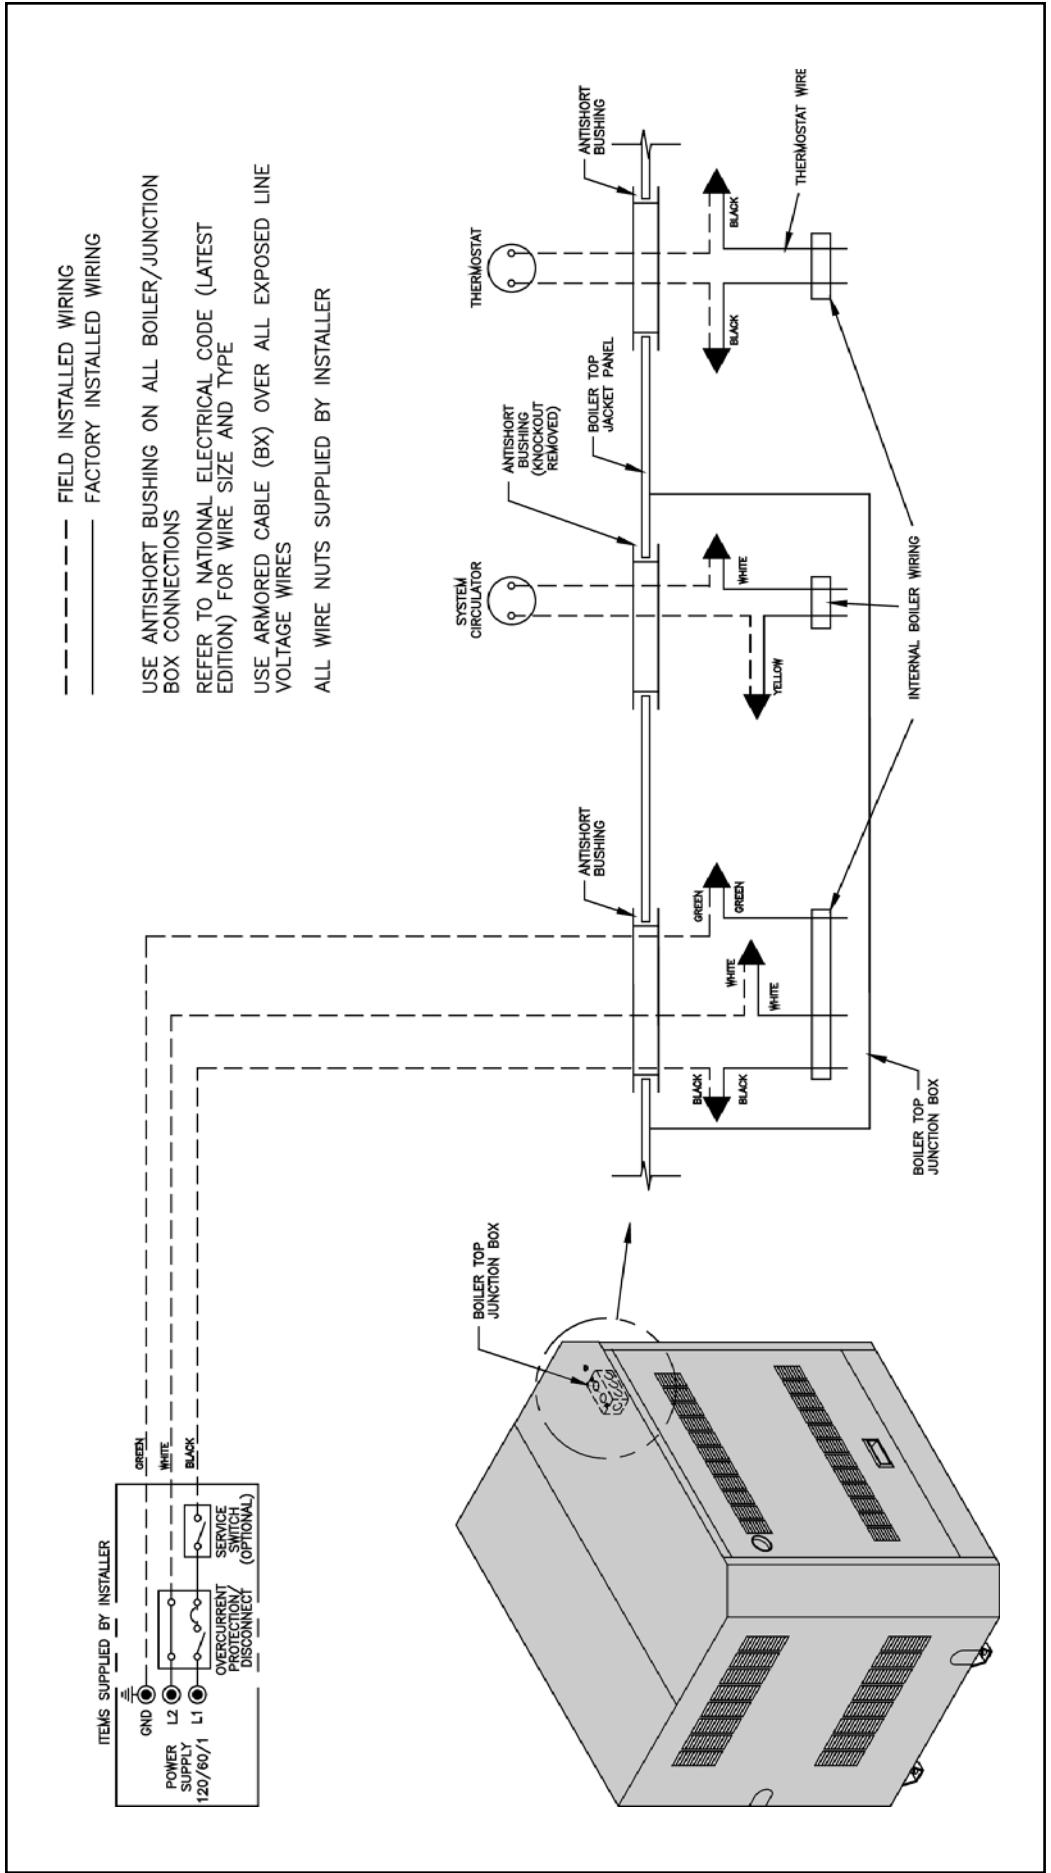

Figure 33: Single Heating Zone Only Wiring Schematic
3. Use armored cable (BX) over all exposed line voltage wiring.
5. Single Zone Heating System – Refer to Figure 33 of this manual for the electrical diagram for this type of system.